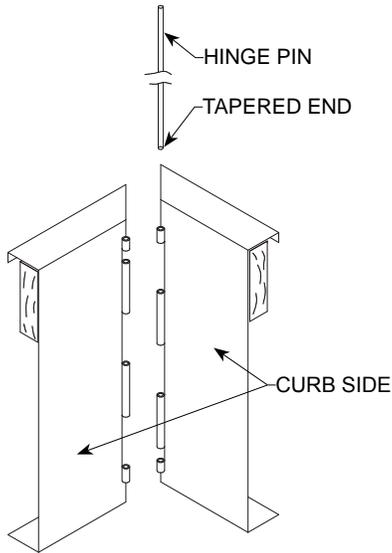
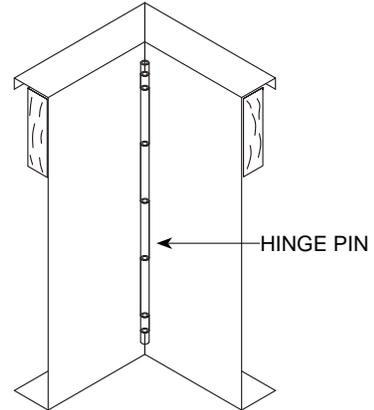

Figure 3
Figure 4
**Corner Assembly:** Align each curb side as shown in **Figure 3**. Using a hammer, drive the curb "hinge" pin down until the top of the pin is below the top of the curb as shown in **Figure 4**.